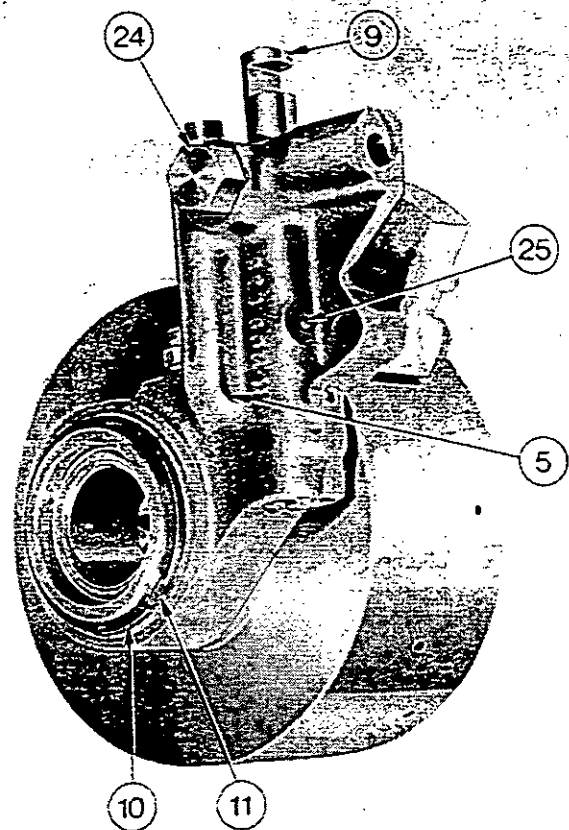
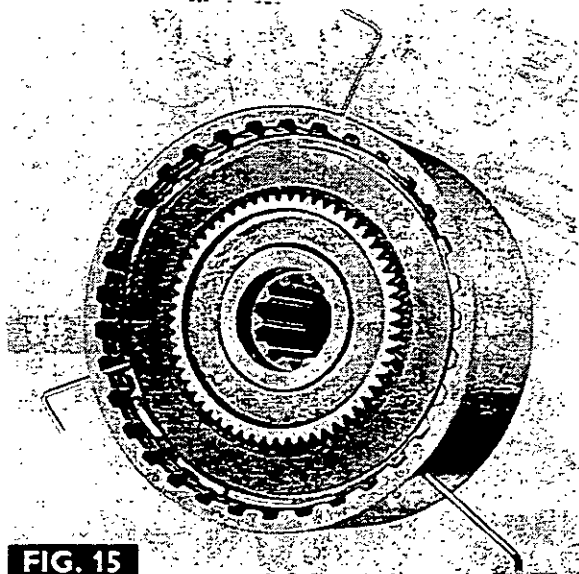
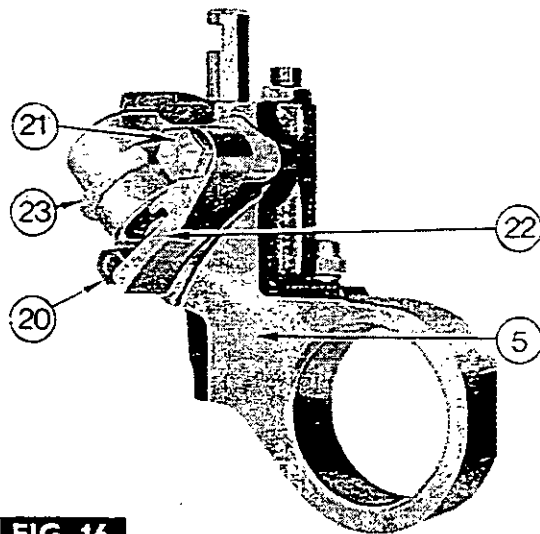

FIG. 13
FIG. 15
FIG. 16
2. Fig. 13. Remove the snap ring (10), thrust washer (11) and then the spool valve (5) from the clutch assembly.
1. If necessary, fit a new piston ring to the piston (14), then place the piston, boss uppermost, in the clutch housing (12).
2. Refit the centre hub (13) in the housing.
3. Fig.15. Alternately assemble the seven pressure plates (15), friction discs (17) and springs (16) in the housing. To facilitate the refitting of all the discs, place suitable pins to compress the springs as shown.
4. Refit the cover plate (18) and secure with a new snap ring (19).
6. Fig.13. Refit the spool valve (5) to the clutch, then the thrustwasher (11) and secure with a new snap ring (10).
2. Fig.13. Remove the snap ring (10), thrust washer (11) and then the spool valve (5) from the clutch housing.
3. Fig.16. Remove the two bolts (20 and 21) securing the brake (22) and the brake housing (23) to the spool valve (5).
4. Fig.13. Remove the plug (24), spring and ball, then drive out the securing pin (25) and withdraw the spool (9) from the spool valve (5).
2. Fig.13. Slide the spool (9) into the valve (5), then align the flat on the spool with the hole in the valve and fit a new securing pin (25).
3. Refit the ball, spring and plug (24).
4. Fig.16. Engage the brake (22) into the slot at the end of the piston (27 Fig. 6) then refit the brake and the brake housing (23) to the spool valve and secure with the two bolts (20 and 21).
**NOTE - BEFORE FULLY TIGHTENING THE BOLTS (20 and 21) ENSURE THAT THE BRAKE (22) IS FLUSH AGAINST THE BRAKE HOUSING (23).**
5. Fig.13. Refit the spool valve (5) to the clutch, then the thrust washer (11) and secure with a new snap ring (10).